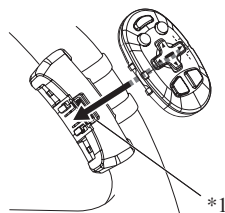

Fig. 18
5. Install the remote control unit in the holder. (Fig. 18)